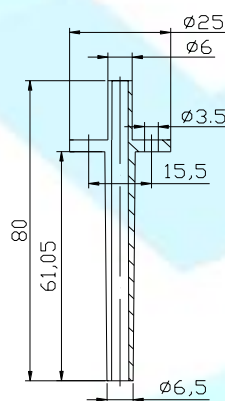
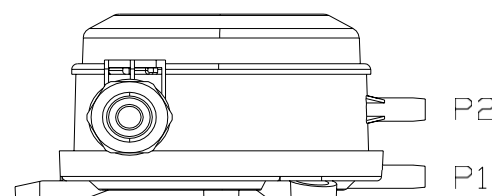

Fig. 5
Fig. 7
1. Insert the 2 pressure connection parts as Fig. 5 or 6 with the long side (60mm) into the prepared holes. Each part should be installed with 2 screws. Be sure to seal the holes after installing to keep the holes airproof.
2. Connect the plastic tube. The standard accessory is 2m long with inner $\phi 6\text{mm}$. Cut the tube as short as possible to connect the ports P1 & P2 on the switch and the other side of accessory of RSA-2006 or RSA-2018 as Fig. 5 or 6. P1 is high port on the bottom of the switch and P2 is low port on the switch body as Fig. 7.